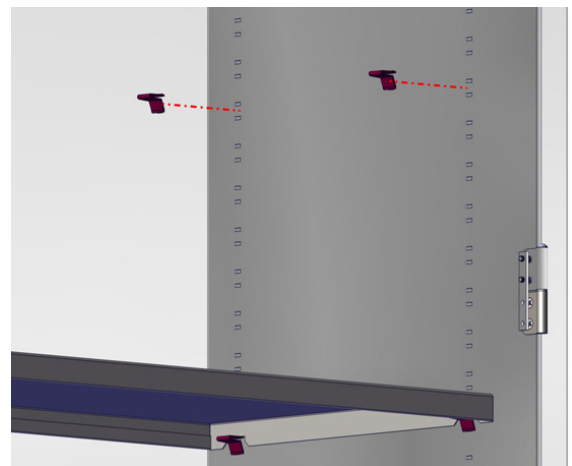

Fig 17: Remove 4 Support Tabs and relocate
3. Remove the four (4 per shelf) shelf supports clips by tilting the clip upwards and lifting out (Fig. 17).